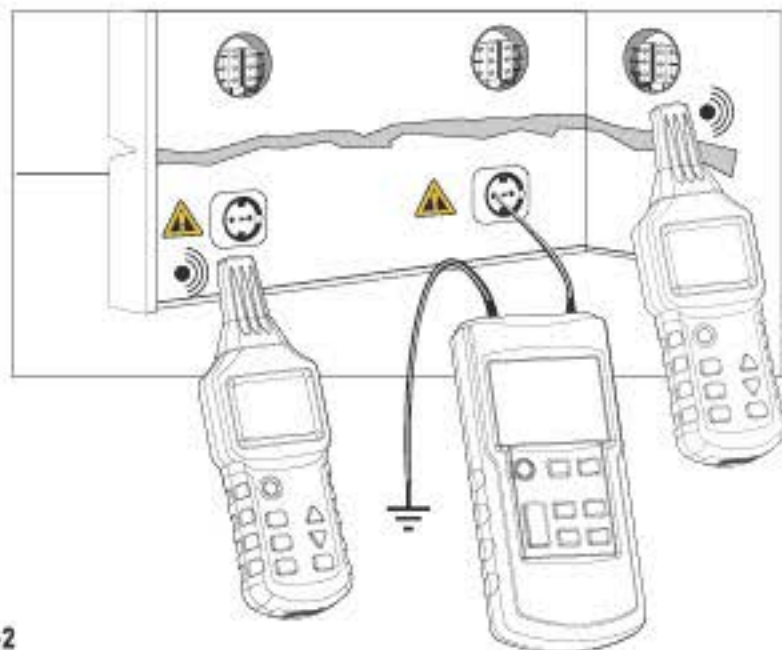

Fig. 3-1-2
- Connect transmitter to phase line and protective ground wire according to Fig. 3-1-2.